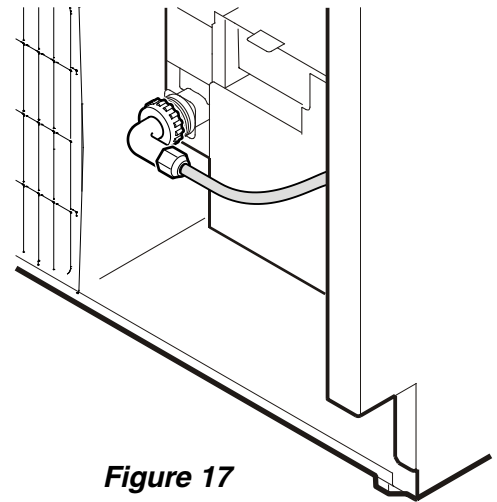

**Figure 15**
4. Push the appliance slowly to the back wall until the compressor mounting plate makes contact with the anti-tipping bracket (**Figure 15**).
To prevent the appliance from tipping forward the compressor mounting plate must have contact with the anti tipping bracket (**Figure 15**).